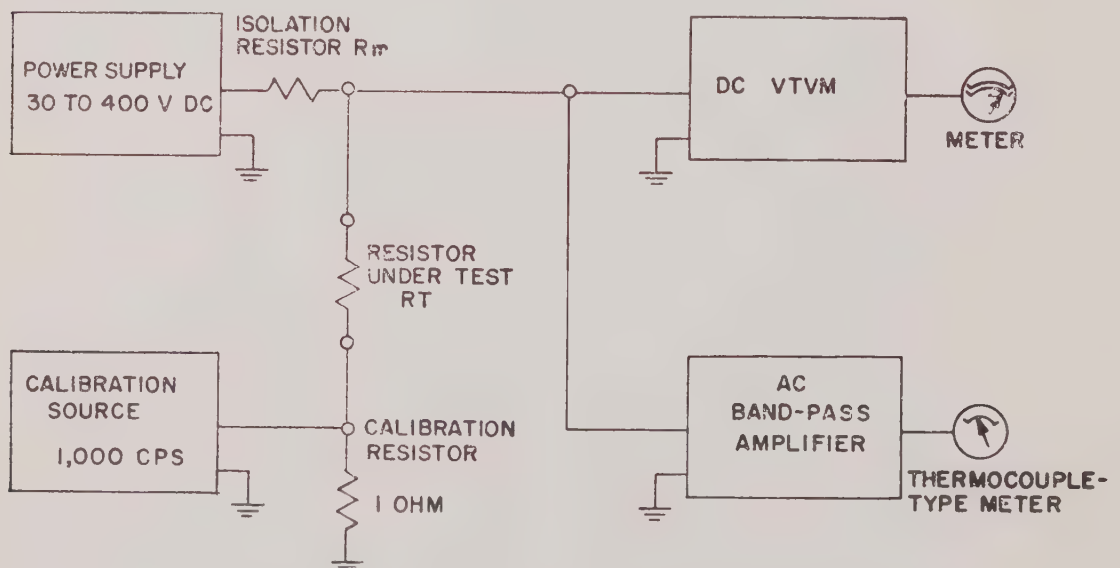

FIGURE 308-1. Block diagram of system.
**2.1 Test system.** The test system shall be as shown in the simplified block diagram in figure 308-1. The dc portion of the system consists of a variable dc power supply and a dc vacuum-tube voltmeter (VTVM). The alternating-current (ac) portion of the system consists of a calibration signal source and an indicating amplifier. The interconnecting leads, as well as the resistor under test, should be adequately shielded.